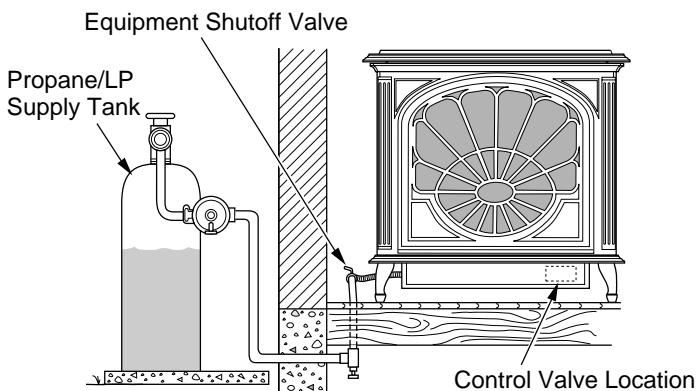

Figure 24 - Checking Gas Joints (Amity™ Stove Model Shown)
3. Check all joints from gas meter for natural or propane/LP supply to equipment shutoff valve (see Figures 24 or 25, page 13). Apply a noncorrosive leak detection fluid to gas joints. Bubbles forming show a leak.
4. Check all joints from equipment shutoff valve to control valve (see Figure 24 or 25). Apply a noncorrosive leak detection fluid to gas joints. Bubbles forming show a leak.